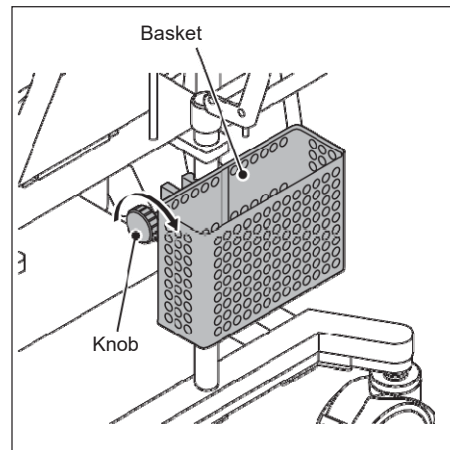

Figure 1-80
1. **Attach the basket to a pole, and secure it with the knob. (Figure 1-80)**